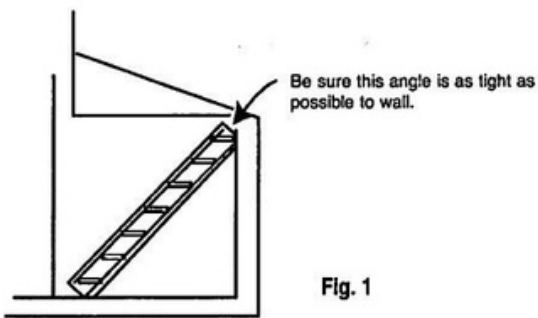

Fig. 1
STEP 1 Set level on convenient eye level tread cut-out (Fig. 1). Move STEELWAY STAIR STRINGER in and out/up and down so That top angle is as straight as possible to outer wall.